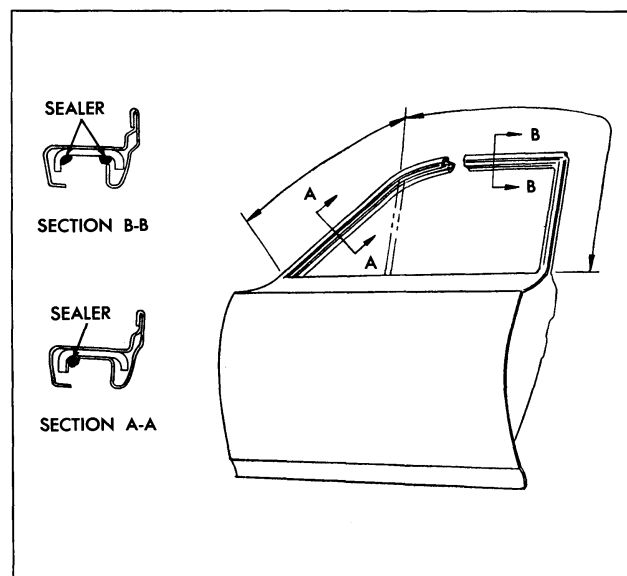

Fig. 3-40 Upper Frame Sealer
in door upper frame along entire area contacted by run channel and a double bead of sealer in door upper frame along area contacted by front door ventilator (Fig. 3-40). Cycle window up and down prior to installing inner panel water deflector and door trim.
2. To adjust door fore or aft, loosen hinge to center pillar attaching screws, adjust door fore or aft as required and tighten attaching screws (Fig. 3-40).